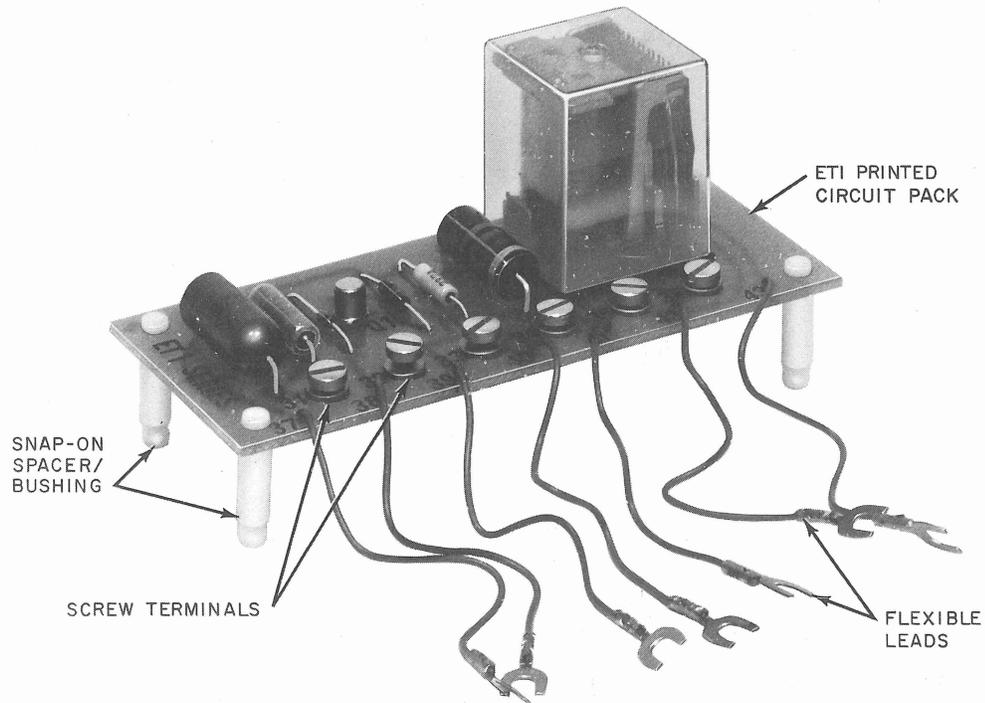

Fig. 12—ET1 Circuit Pack
3.09 Two additional arrangements can be implemented by using an ET1 circuit pack (Fig. 12) with DAS 830B. The circuit pack provides: